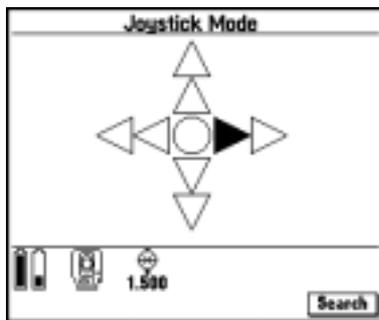

Figure 14.9 Joystick mode screen—direction of instrument turning
2. Press \uparrow , \rightarrow , \downarrow , or \leftarrow on the arrow keypad of the TSC1 data collector to select a direction to turn the instrument. The instrument will turn in the direction indicated by the solid/filled arrow, as shown in Figure 14.9.